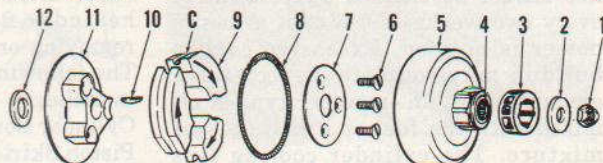

Fig. PR3-15—Exploded view of the clutch used on direct drive models.
**DIRECT DRIVE CLUTCH.** Clutch drum (5—Fig. PR3-15), bearing (4) and shoes (9) can be removed after removing the cover, chain and nut (1). The chamfered end (C) of clutch shoes (9) should be on trailing end as shown. Bearing (4) should be lubricated with a small amount of Mobil Sovarex No. 1W or Shell Alvania No. 2 lubricant before installing clutch drum. Connection at ends of garter spring (8) should be at the middle of a clutch shoe. Do not have connection between clutch shoes. A puller can be used to remove the clutch driver from crankshaft as shown in Fig. PR3-16. Chamfered side of washer (12—Fig. PR3-15) should be toward engine.